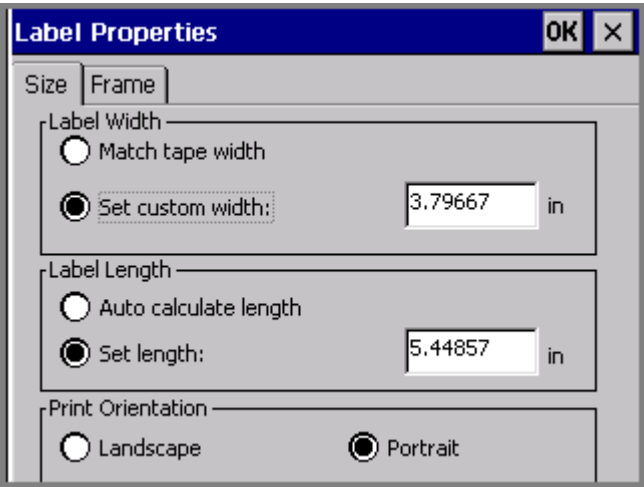

Figure 6-14. The Label Properties screen, Size tab.
- **Size**, for controlling the dimensions of your labels (Figure 6-14)
Use the options on the **Size** tab, shown in Figure 6-14, to change the size of a label and to set print orientation.: